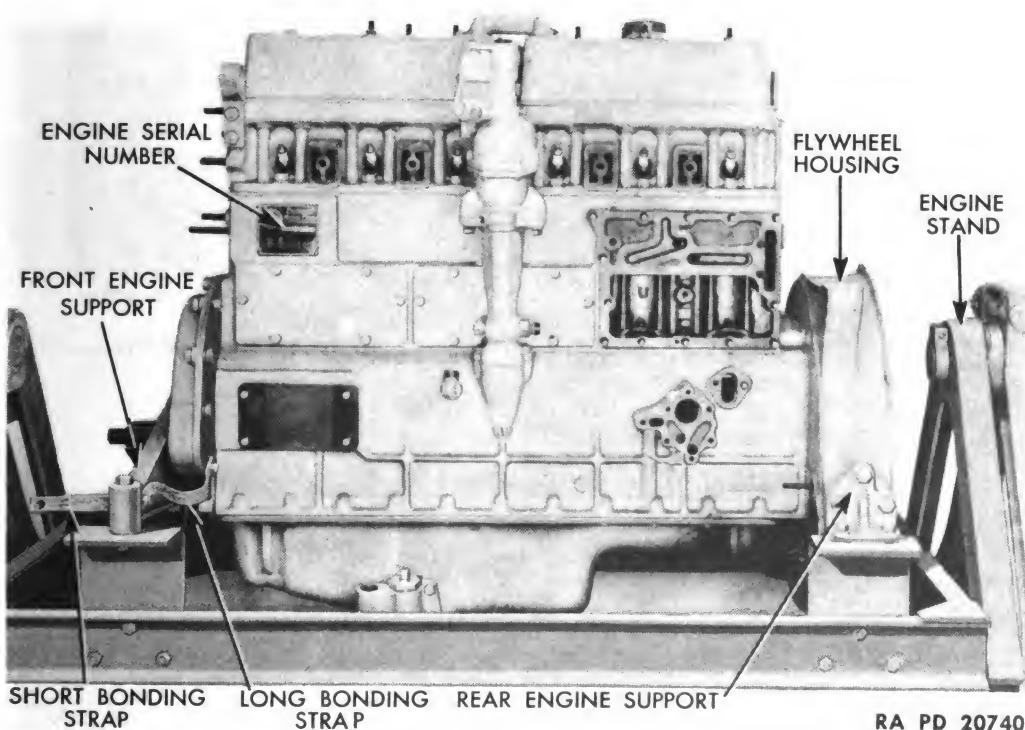

Figure 8 — Engine Without Accessories Mounted on Stand
a. Mount Engine On Stand. Before mounting engine on stand, engine clutch and clutch gear reduction unit must be removed as described in paragraph 90 a (18) to (21). Mount engine on revolving stand. Secure front engine support and rear supports to brackets on stand with six cap screws and nuts (fig. 8).